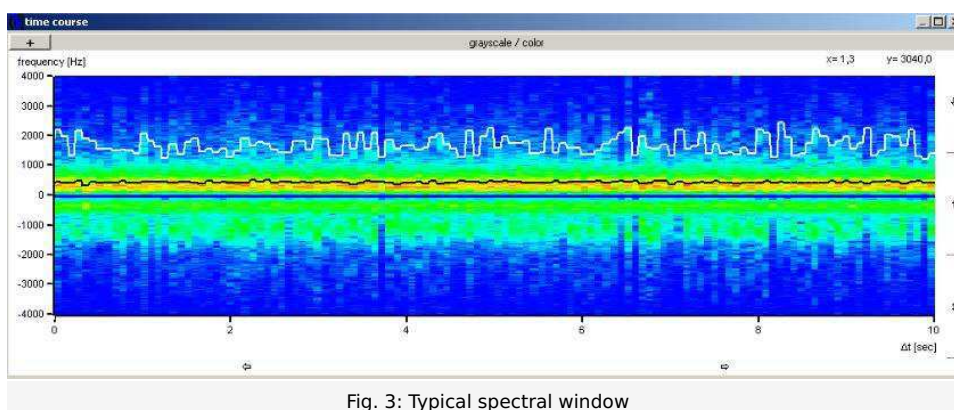

Fig. 3: Typical spectral window
- In the spectral window ("time course"), search for positive and negative components of flow direction (Fig. 3). Rotate the Doppler probe by 180°. Compare the two results and explain the differences.